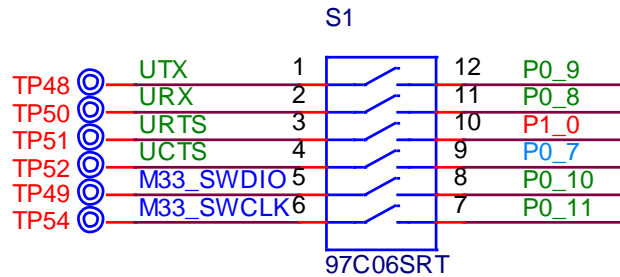

Figure 4: DIP Switch
- DIP switch to isolate UART and JTAG signals (in case we need to secure the most accurate sleep current measurements, Figure 4)